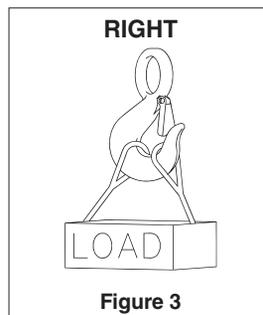

Figure 3
- When placing two (2) sling legs in hook, make sure the angle between legs is small enough and the legs are not tilted so that nothing bears against the bottom of the latch (See Figures 3 & 4).
- See OSHA Rule 1926.1431(g)(1)(i)(A) and 1962.1501(g)(4)(iv)(B) A hook and this style latch must not be used for lifting personnel.